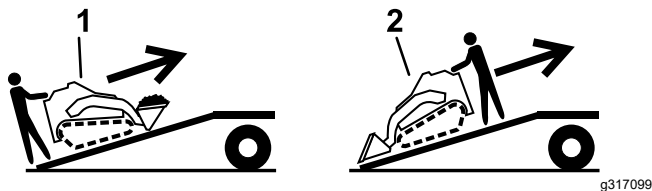

Figure 21
5. Load the machine onto the trailer with the heavy end up the ramp, carrying loads low (Figure 21).